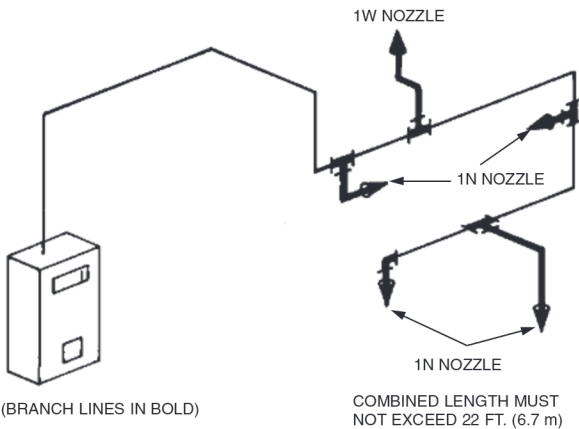

FIGURE 92
6. The combined length of all branch lines must not exceed 22 ft. (6.7 m). See Figure 92.